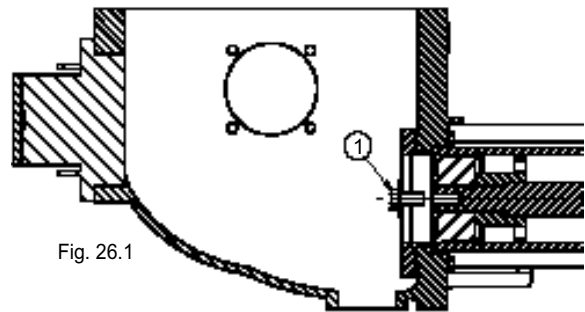
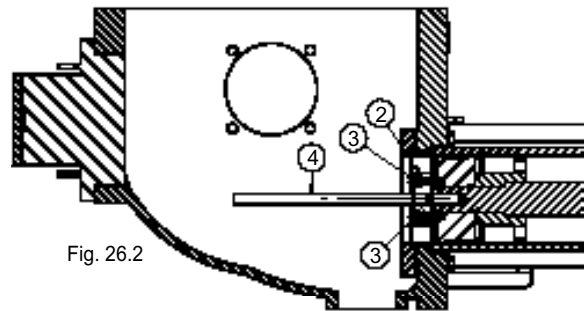
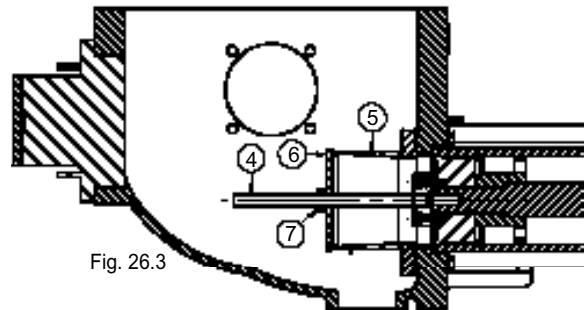

Fig. 26.1
Fig. 26.2
Fig. 26.3
- Undo the head bolt (Fig. 26.1 Ref. 1), mount the extractor (Fig. 26.2 Ref. 2) to the piston and screw in the two bolts (Fig. 26.2 Ref. 3).
- Screw the tie-rod (Fig. 26.2 Ref. 4) fully into the extractor, locate the centring bush (Fig. 26.3 Ref. 5) on the wear plate, fit the cap (Fig. 26.3 Ref. 6) and start screwing in the nut (Fig. 26.3 Ref. 7) ; screwing the nut in extracts the piston (Fig. 26.4 Ref. 8) from the cylinder.